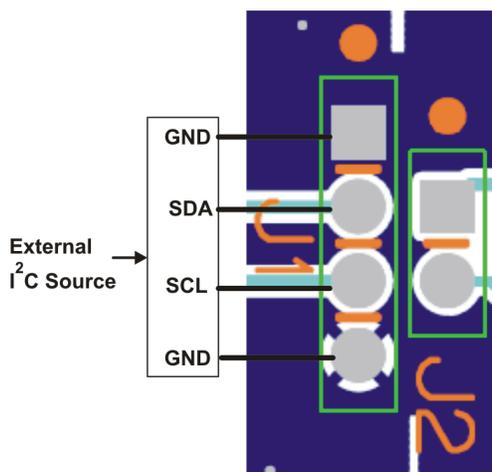

Figure 6. Connect I²C Controls to JP3
1. Install shunts in jumpers JP10. Remove shunts in J1 and JP2 and connect I²C controls to JP3 as shown in Figure 6.